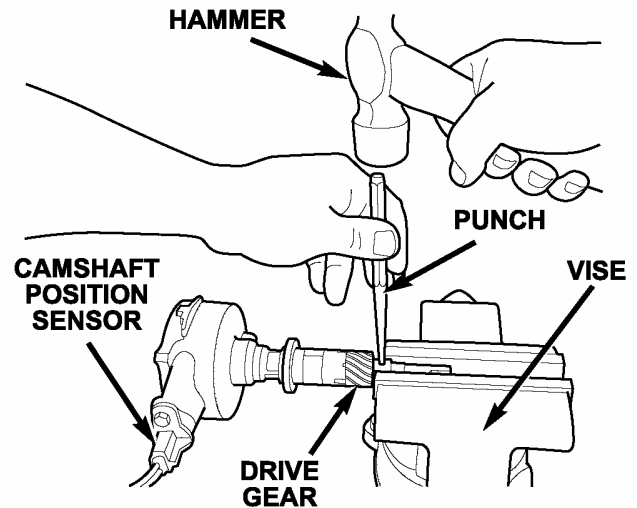

Figure 4
8. With the drive gear clamped in a vise, remove the roll pin that holds the drive gear to the shaft (Figure 4).